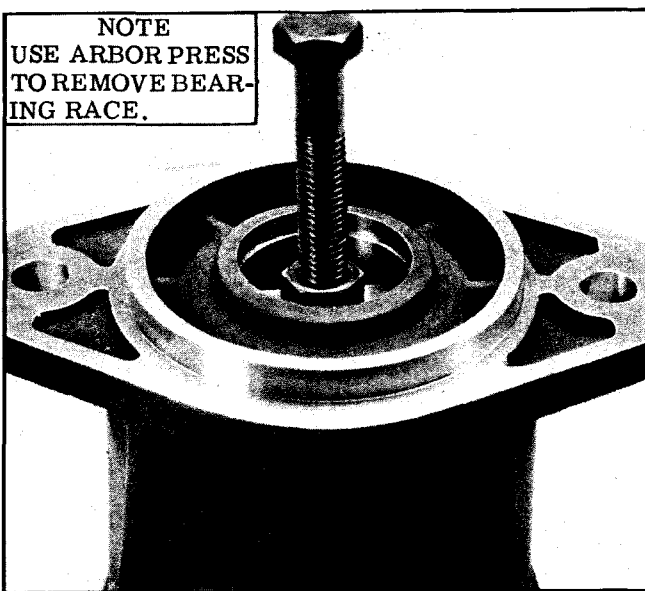

Figure 14. Removal of the bearing race located within the housing.
- c. Press the drive shaft through the bearing. A 0.001 inch press exists between the shaft and bearing so considerable force is required to remove the bearing from the shaft. DO NOT remove the bearing race unless bearing (22) was found defective. Refer to Figure 14 for bearing race removal insutructions. Use special tool shown in Figure 6.